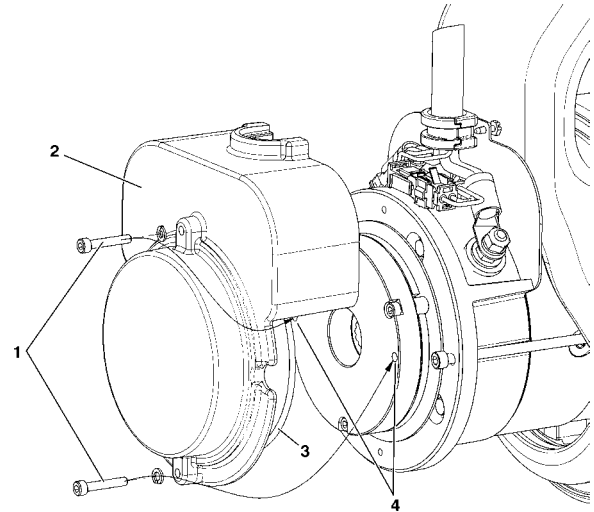

Figure 4-5. Manual Disengage
3. Remove the **two cover bolts (1)**, **cover (2)**, and **cover o-ring seal (3)** from the back of drive motor unit.
4. Insert the **cover bolts (1)** into the **two disengage holes in the brake housing (4)**, see Item 4 in Figure 4-5., Manual Disengage.
7. After towing is complete, chock wheels and **remove cover bolts (1)** from **disengage holes (4)**.
8. Reinstall **cover (2)**. Before installation, check the **cover o-ring seal (3)** for damage, replace if necessary.